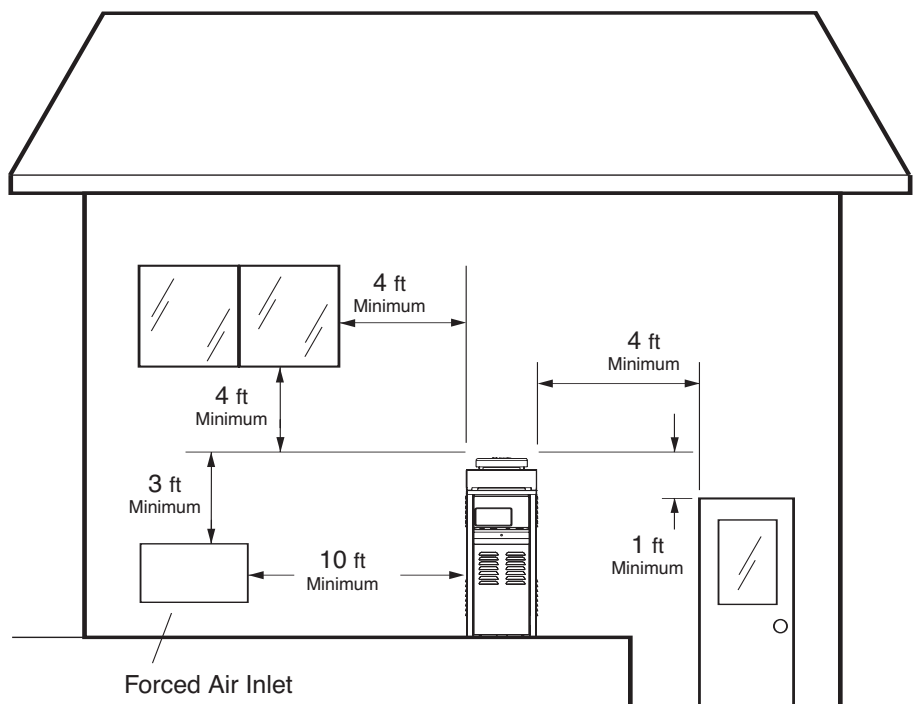

Figure 6. Outdoor Installation Clearances.
- For U.S. installations, the point from where the flue products exit the heater must be a minimum of 4 ft below, 4 ft horizontally from, or 1 ft above any door, window or gravity inlet into any building. The top surface of the heater shall be at least 3 ft above any forced air inlet, or intake ducts located within 10 ft horizontally. See Figure 6.